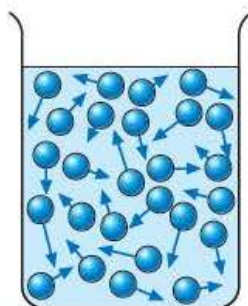

Figure 2.5 Particles in a liquid.
- In a liquid, the particles are not in a regular arrangement. They have more energy and they can slide past each other (Figure 2.5).